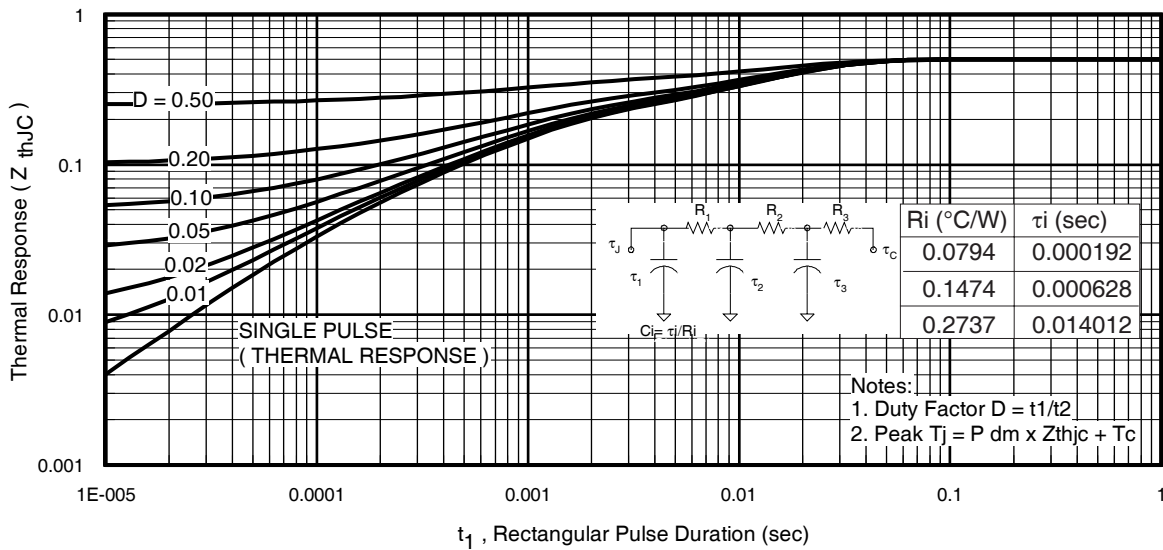
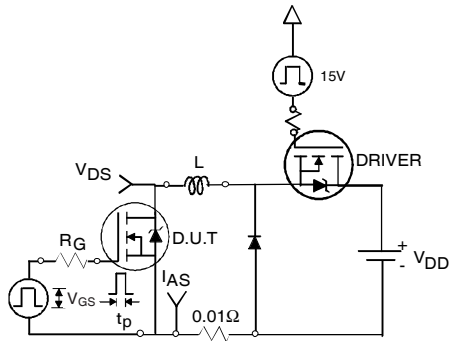

Fig 11. Maximum Effective Transient Thermal Impedance, Junction-to-Case
Fig 12a. Unclamped Inductive Test Circuit
- ① Repetitive rating; pulse width limited by max. junction temperature. (See fig. 11).
- ② Limited by T_{Jmax} , starting $T_J = 25^\circ\text{C}$, $L = 0.043\text{mH}, R_G = 25\Omega, I_{AS} = 140A, V_{GS} = 10V$. Part not recommended for use above this value.
- ③ Pulse width $\leq 1.0\text{ms}$; duty cycle $\leq 2\%$.
- ④ $C_{oss\ eff.}$ is a fixed capacitance that gives the same charging time as C_{oss} while V_{DS} is rising from 0 to 80% V_{DSS} .
- ⑤ Limited by T_{Jmax} , see Fig.12a, 12b, 15, 16 for typical repetitive avalanche performance.
- ⑥ This value determined from sample failure population. 100% tested to this value in production.
- ⑦ This is applied to D²Pak, when mounted on 1" square PCB (FR-4 or G-10 Material). For recommended footprint and soldering techniques refer to application note #AN-994.
- ⑧ R_{θ} is measured at T_J of approximately 90°C .
- ⑨ Solder mounted on IMS substrate.
3. Equation below based on circuit and waveforms shown in Figures 12a, 12b.
$Z_{thJC}(D, t_{av})$ = Transient thermal resistance, see figure 11)